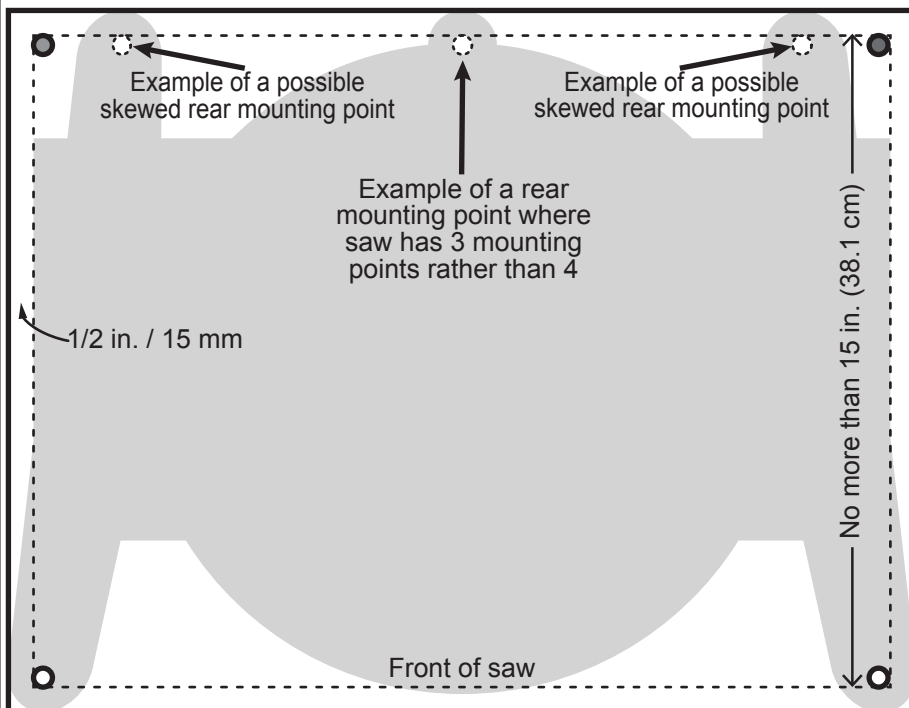

fig 9
1. Mark and cut a piece of plywood to fit the mounting hole configuration of your miter saw like the drawing, fig.9.
3. From your 2 front saw-mounting points (fig 9, white with solid outline), measure at a 90
4. Mark the 2 rear corner mounting bracket holes (fig 9, gray with solid outline) as well as the remaining mounting hole(s) for your saw (fig 9, white with dotted outline), remembering to leave them all 1/2" (15 mm) from each edge.
- In the case shown in fig 9, carriage bolts would go up through the mounting brackets, then the adaptor plate and then